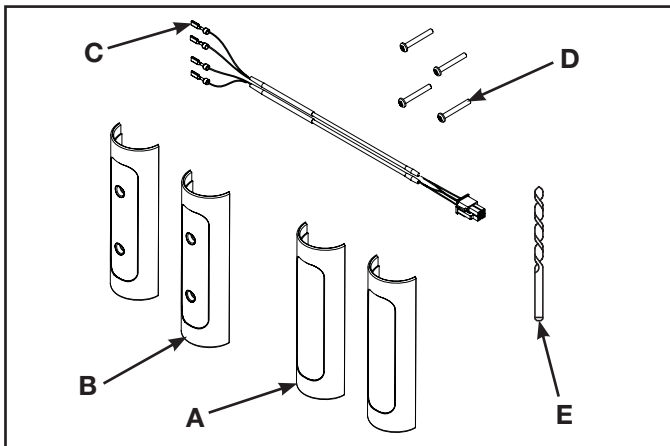

Figure 1
2. Verify kit contents. See Figure 1.
- A. Top plastic sensor grip, (2), 610A-407
- B. Bottom plastic sensor grip, (2), 610A-408
- C. Heart rate cable, (1), AW-19870
- D. Self tapping screw #6 x 1.00, (4), HT532517
- E. 15/32" drill bit, (1), TE000008